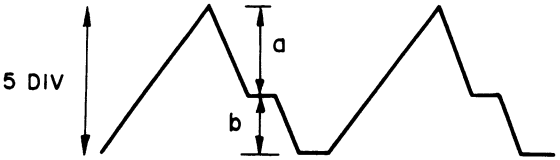

Fig. 11-5 Waveform
- 3. When a waveform like that shown in Fig. 11-5 is obtained, vary oscilloscope gain until a sawtooth wave with 5 div peak-to-peak is obtained. Then, referring to Fig. 11-5, adjust VR1 until a to b equals 3 to 2. (Make sure noise does not affect adjustment.)
- 4. When the 33 1/3 rpm adjustment is completed, adjust VR2 using the same procedure (item 2 and 3 above) for 45 rpm. Always adjust 33 1/3 first, and always adjust 33 1/3 if 45 rpm is to be adjusted even though it might be accurate.